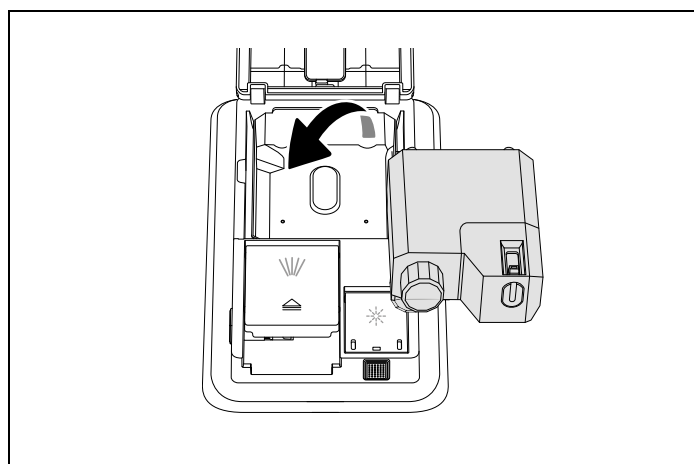

Fig. 69
- Install the refill bottle or a new bottle as Fig. 69 .